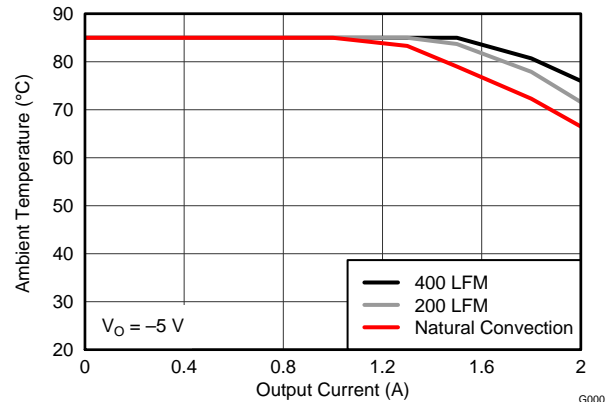
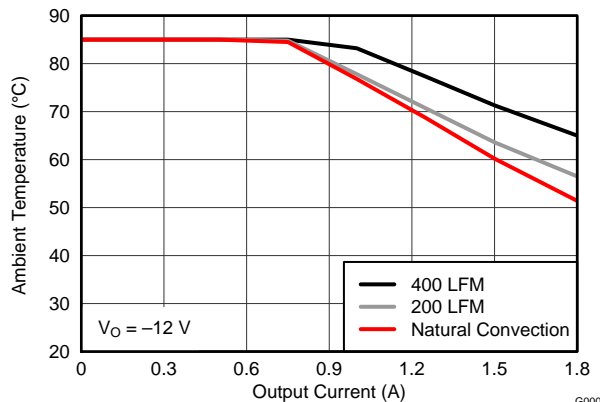
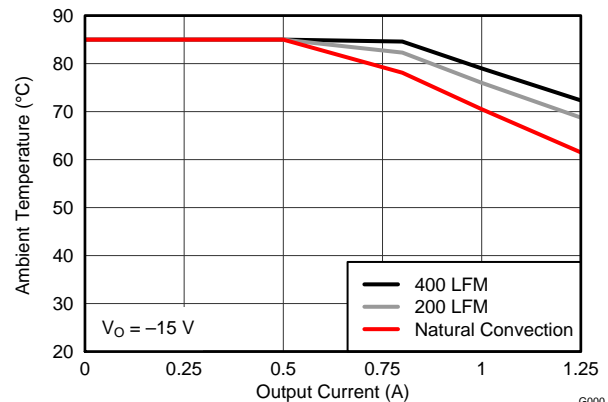

Figure 24. Safe Operating Area
Figure 25. Safe Operating Area
Figure 26. Safe Operating Area
- (3) The temperature derating curves represent the conditions at which internal components are at or below the manufacturer's maximum operating temperatures. Derating limits apply to devices soldered directly to a 100 mm x 100 mm, 4-layer, double-sided PCB with 1 oz. copper. Applies to Figure 24, Figure 25, and Figure 26.